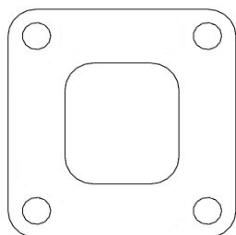

Figure 5
- Older engines with the Non-Dry Joint require FWC Conversion kit # MFH-5320-A. This kit includes two standard block-off gaskets (see Figure 5).